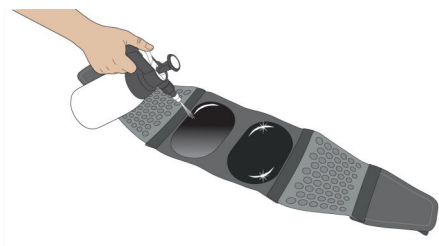

Fig. 48: i-body® belt with buttocks electrodes
- 20.** Moisten the electrodes of the i-body® belt (Fig. 48).